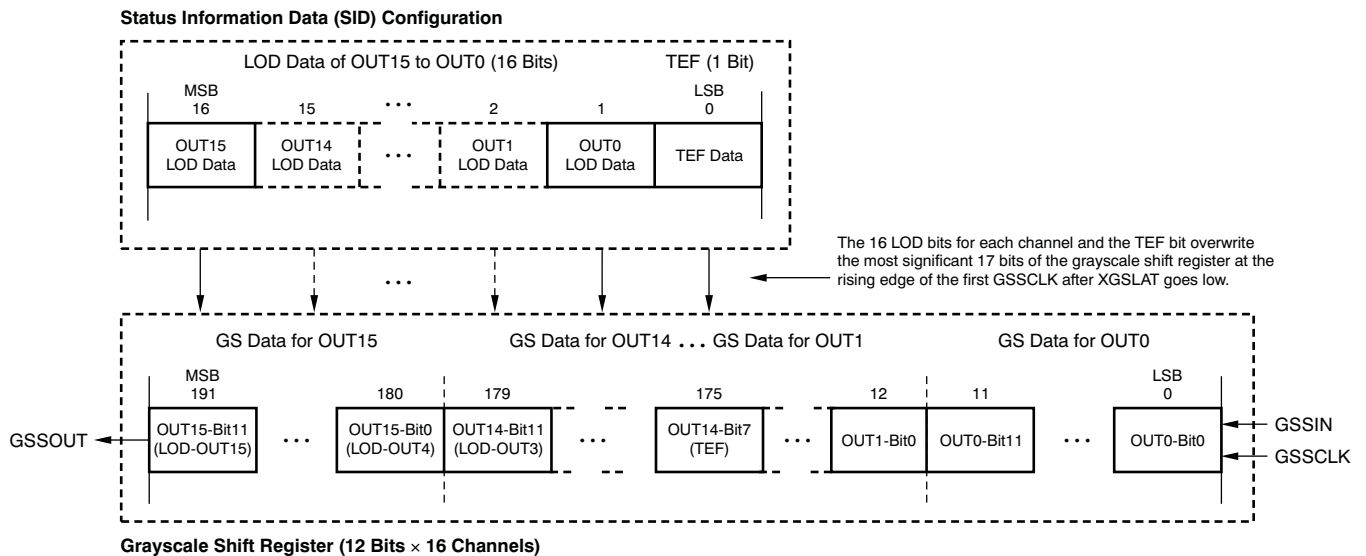

**Figure 23. Dot Correction Shift Register and Latch Configuration**
The Dot Correction (DC) Shift Registers and latches are each 112 bits in length and are used to individually adjust the constant current values for each constant current driver. Each channel can be adjusted from 0% to 100% of the maximum LED current with 7-bit resolution. Table 2 describes the percentage of the maximum current for each dot correction data. See Figure 23 for the Dot Correction Shift Register and data latch configuration. Figure 10 illustrates the timing chart for writing data into the DC Shift Registers and latches. Each channel LED current is dot-corrected by the percentage corresponding to the data in its DC data latch. DC data present on the DCSIN pin are clocked into the DC Shift Register with each rising edge of the DCSCCLK pin. Data are shifted in MSB first. The data are latched from the shift register into the DC data latch with a rising edge on the XDCLAT pin.